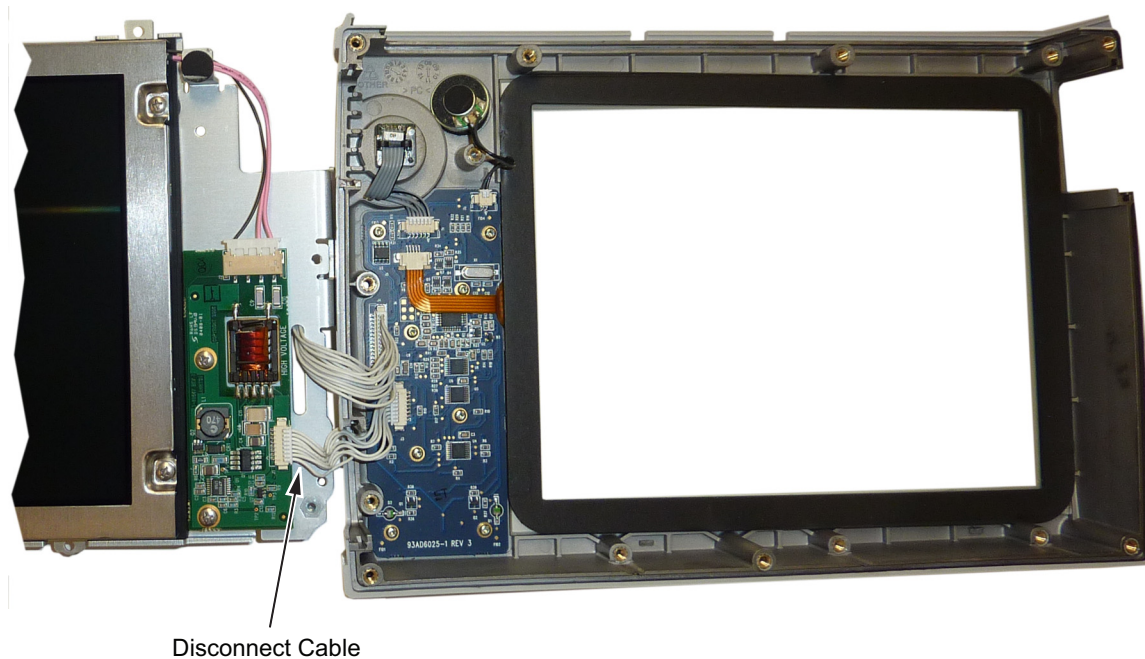

Figure 6-12. Replacing the LCD Assembly
4. Turn the LCD assembly over and disconnect the front half of the case from the LCD assembly (Figure 6-12).